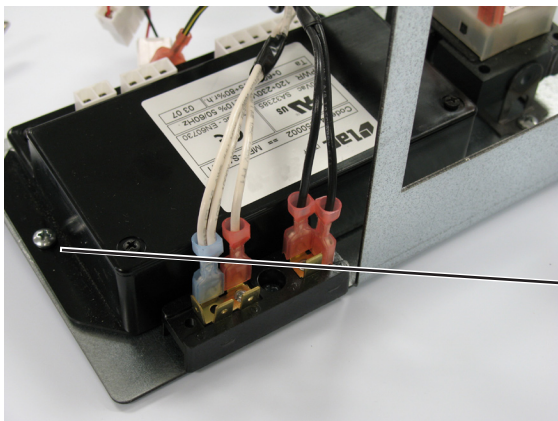

Figure 5.2
3. Remove the Phillips head screw that secures the electronic control to the electrical bracket (see Figure 5.2).